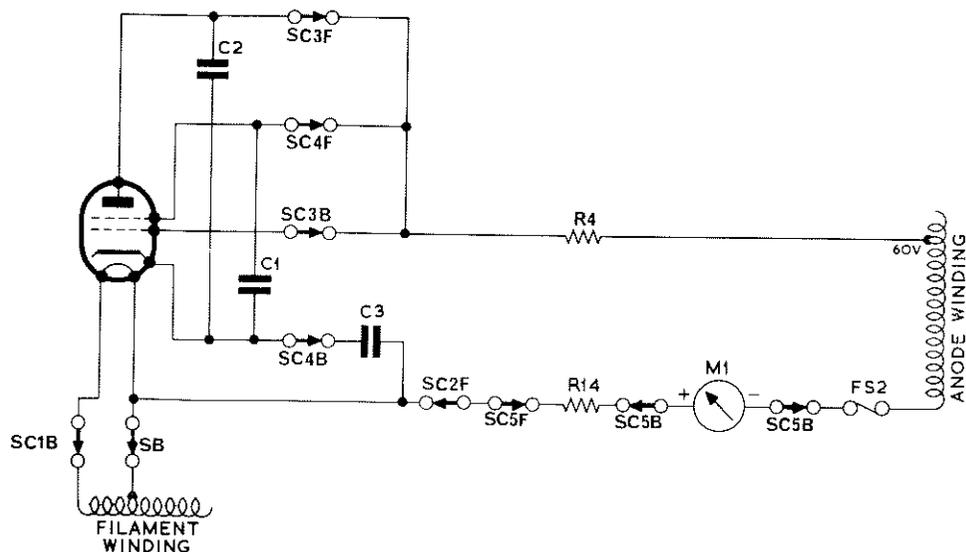

FIG. 5. CATHODE LEAKAGE.
10. CATHODE LEAKAGE (See Fig. 5)